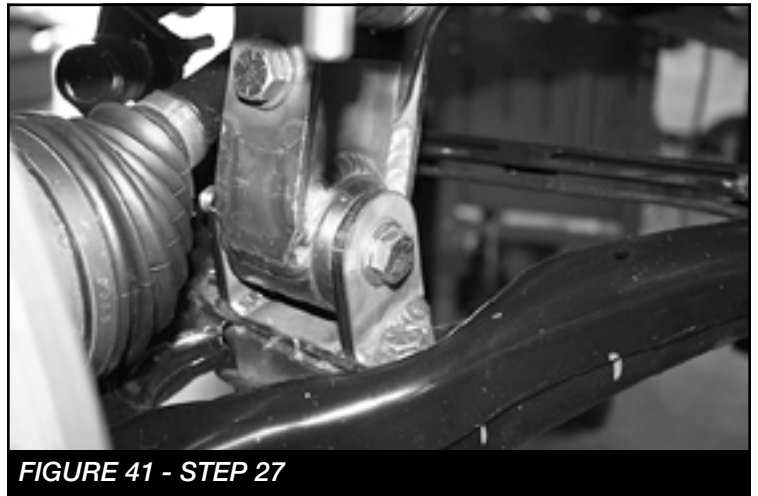

FIGURE 41 - STEP 27
27. Install the factory coilover to the upper mount using the factory hardware and to the new lower mount using the supplied 1/2" x 3-3/4" bolt and hardware. **SEE FIGURE 41**